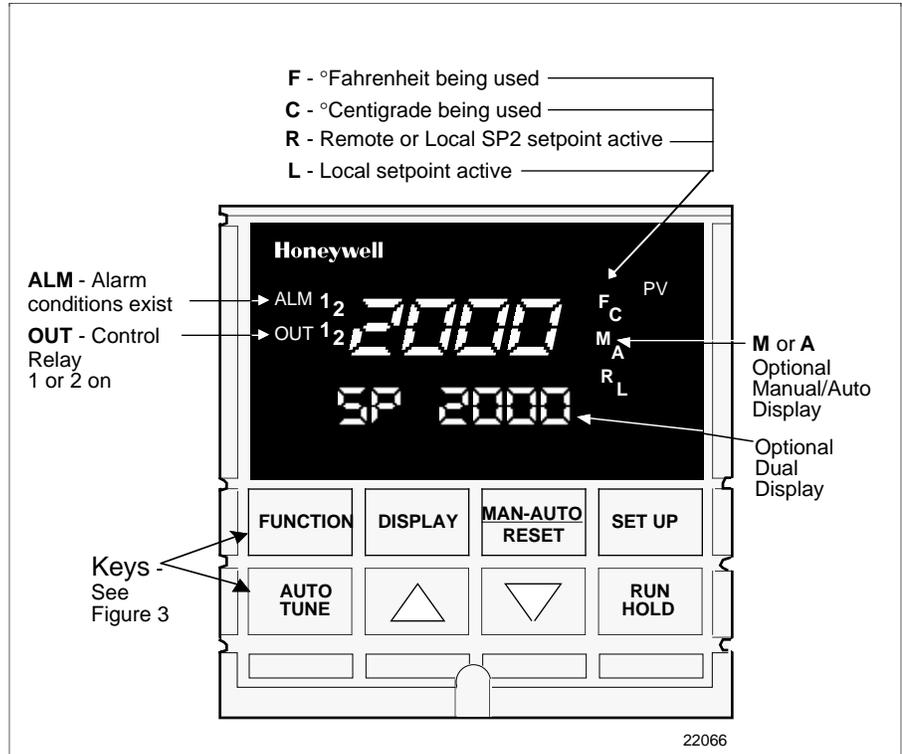

Figure 2 - Operator Interface
**Operator Interface (Figure 2)**